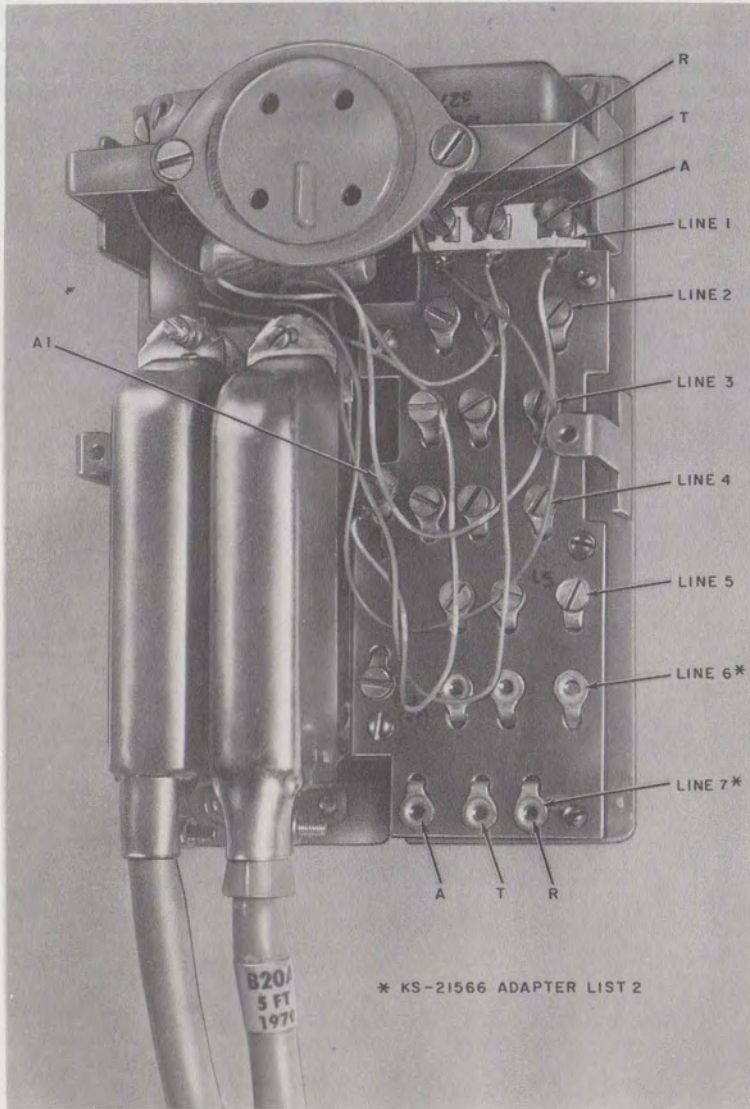

Fig. 1—KS-21566 Adapter
**3.01** Interface termination JTA consists of a supervisory relay to provide A-lead control for any one line of a KTS. A KS-21566 adapter (Fig. 1) provides the interface between the approved telephone answering devices and the KTS.
**4.01** The KS-21566 adapter is furnished in two versions. The List 1 provides access to any of the first five lines in telephone sets using the standard wiring arrangement in 1A2 KTS. The List 2 provides access to any one of seven lines and is wired compatible with the 7A and 14A Communication Systems (COM-KEY\*). The 4-prong jack provides the line termination to the CPE. The line furnished to the jack is determined by the position of the wafer strip (Fig. 1).
**6.02** Use a List 1 adapter and connect by disconnecting set mounting cord from the connector cable and installing ends in the proper plug and connector on the adapter. Move wafer strip to screw terminals accessing desired line (Fig. 1).